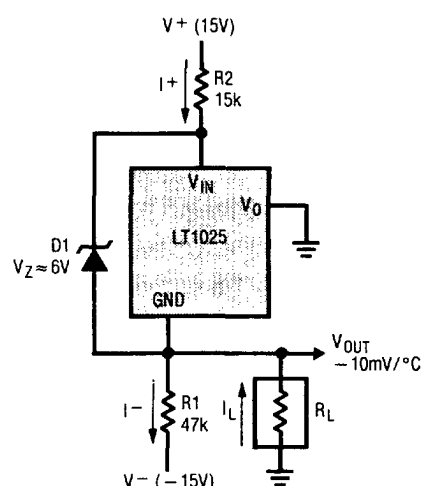

Figure 3
The LT1025 can be made to “stand on its head” to achieve a minus 10mV/°C output point. This is done as shown in Figure 3. The normal output (VO) is grounded and feedback is established between the ground pin and the positive supply pin by feeding both of them with currents while coupling them with a 6V zener. The ground pin will now be forced by feedback to generate -10mV/°C as long as the grounded output is supplying a net “source” current into ground. This condition is satisfied by selecting R1 such that the current through R1 (I-) is more than the sum of the LT1025 supply current, the maximum load current (IL), and the minimum zener current (≈ 50μA). R2 is then selected to supply more current than I-.